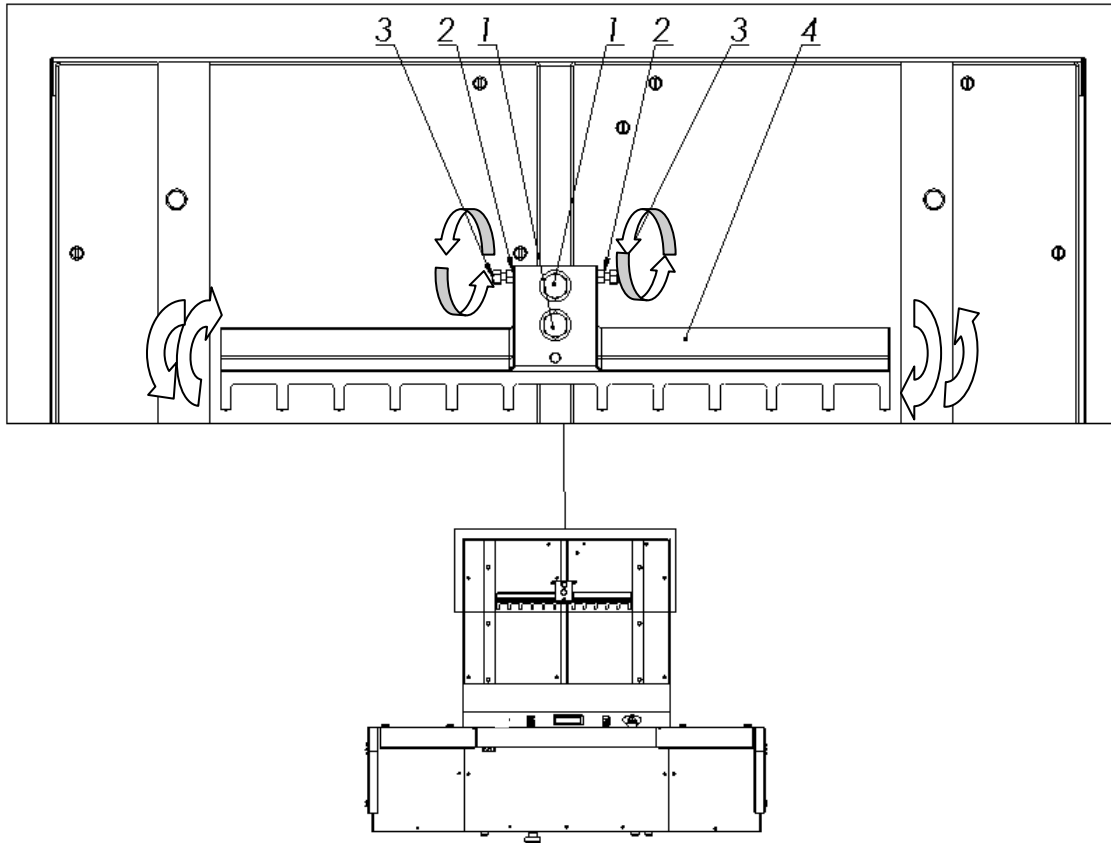

Figure 41. Adjusting elements of backguage
3. loosen the screws 1 (fig.41)
4. loosen the nuts 2 (fig.41)
5. by turning the screws 3, place the approaching beam 4 (Fig. 41) at the right angle
6. lock the adjustment screws with 3 nuts 2 (fig.41)
7. firmly tighten the screws 1 (fig.41)